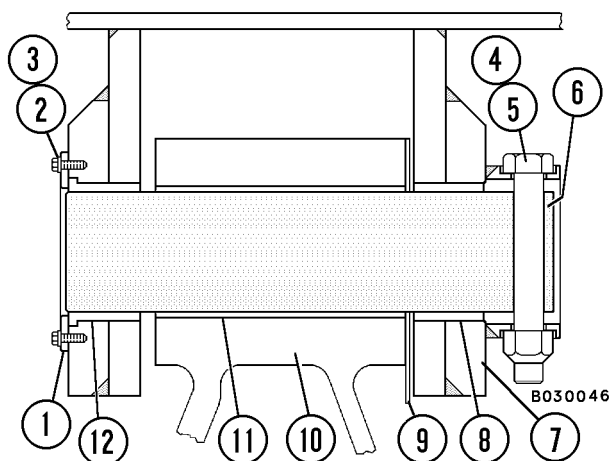

FIGURE 3-1. DUMP BODY PIVOT PIN
5. Remove capscrews (4, Figure 3-1) from each pivot pin.
6. Remove body pivot pins (6) far enough to allow spacer (9) to drop out. Complete removal is not necessary unless a new pin is to be installed.